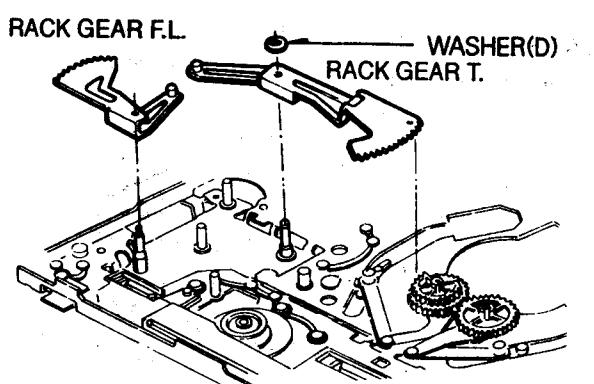

Fig. B-25-3 Rack Gear F.L./Rack Gear T
- 3) Remove the Rack Gear F.L.(Fig. B-25-3).
- 4) Remove the Washer(D).(Fig. B-25-3).
- 5) Remove the Rack Gear T.(Fig. B-25-3).